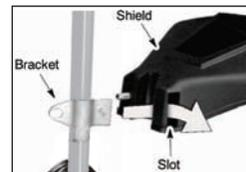

Fig. 1
2. Insert bracket into slot on shield (Fig. 1).